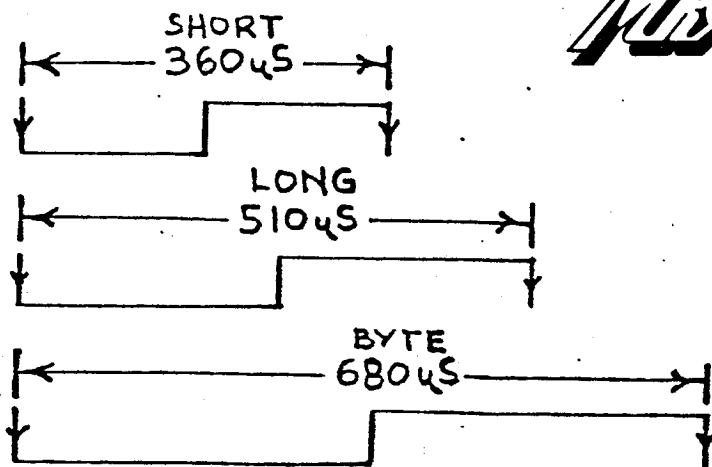

FIGURE 2: DATA IN/OUT
a) The CBM computer outputs data during WRITE to the cassette with the information carried in the **positive** going transitions and accepts data during READ with the information carried by the **negative** going edges. (See Figure 2).